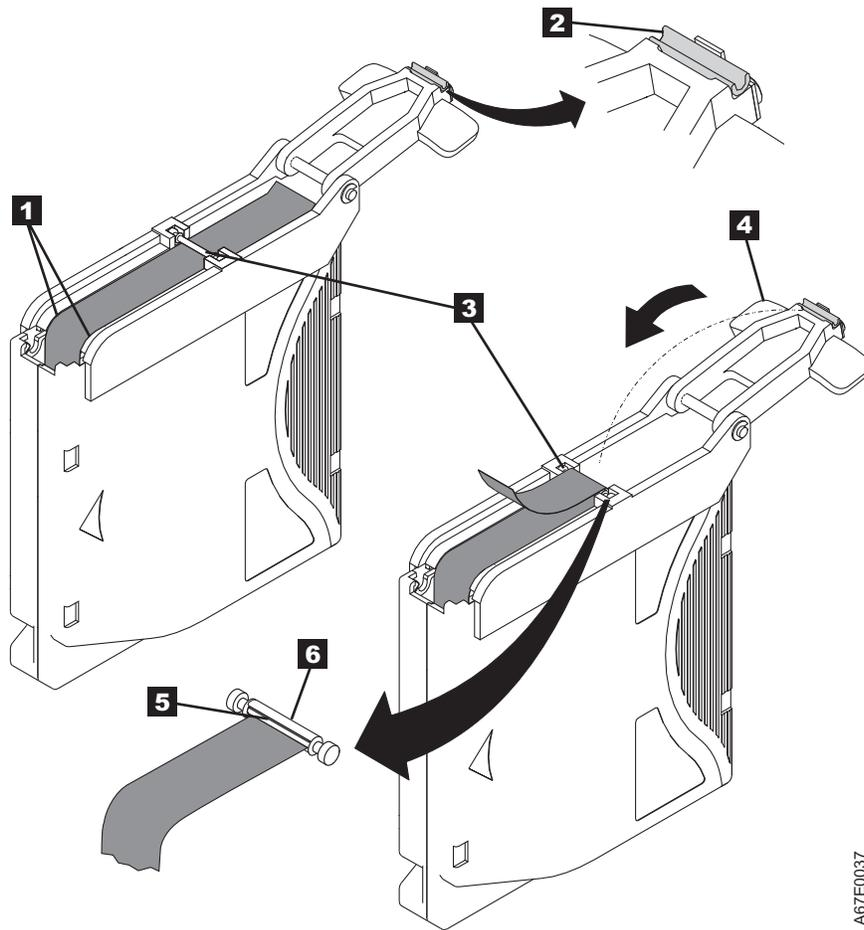

Figure 6-15. Attaching the leader pin to the tape
7. Position the tape in the alignment groove of the leader pin attach tool (see **1** in Figure 6-15 on page 6-17).
8. Place a new C-clip into the retention groove (**2**) (Figure 6-15 on page 6-17) on the leader pin attachment tool and make sure that the clip's open side faces up.
9. Place the leader pin (from step 6) into the cavity (**3**) (Figure 6-15 on page 6-17) of the leader pin attach tool.
10. Fold the tape over the leader pin and hold it with your fingers (see Figure 6-15 on page 6-17).